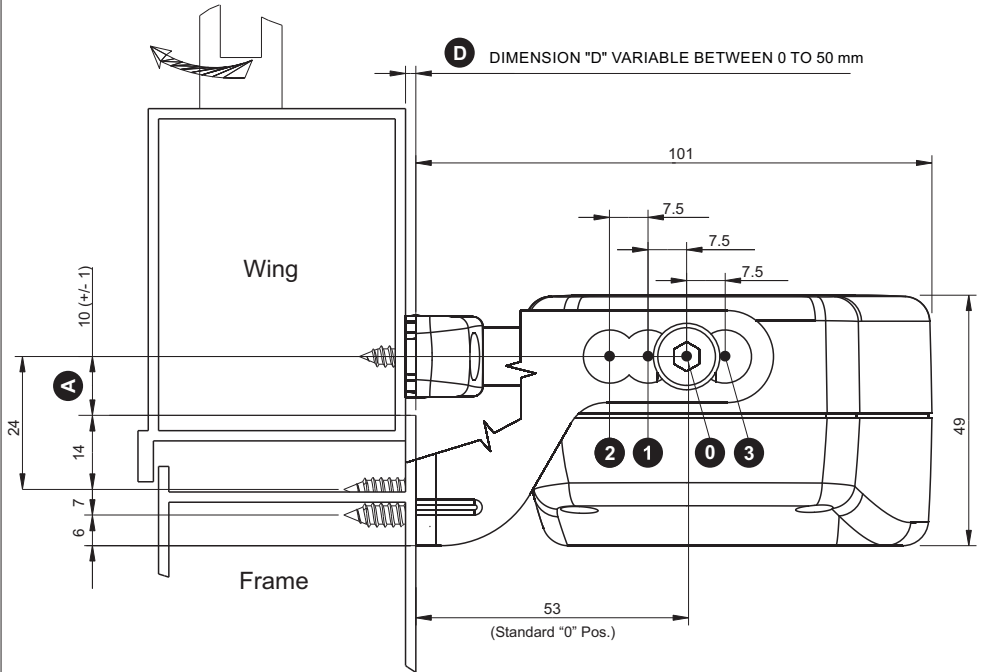

Fig. 6b Dimensions in mm
VERIFY THE DIMENSION "D": VARIABLE BETWEEN 0 TO 50 mm : FOR TOP HUNG ASSEMBLY (FIG.6a); FOR BOTTOM HUNG ASSEMBLY (FIG.6b)
- 8) **Fig. 28-** Using the two supplied screws (**Ref. 1**) tighten the actuator to the window frame connection bracket in the most suitable position according to the value of the overlapped part "D" (**see Fig. 6b**).